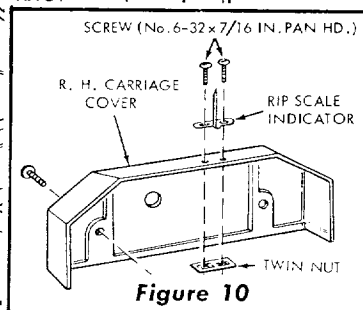

Figure 10
- e. Attach one of the two rip-scale indicators to the carriage cover (figure 10) with one twin nut and two No. 6-32 x 7/16-inch, pan-head screws. Tighten the screws lightly as the rip scale indicators will be adjusted later.